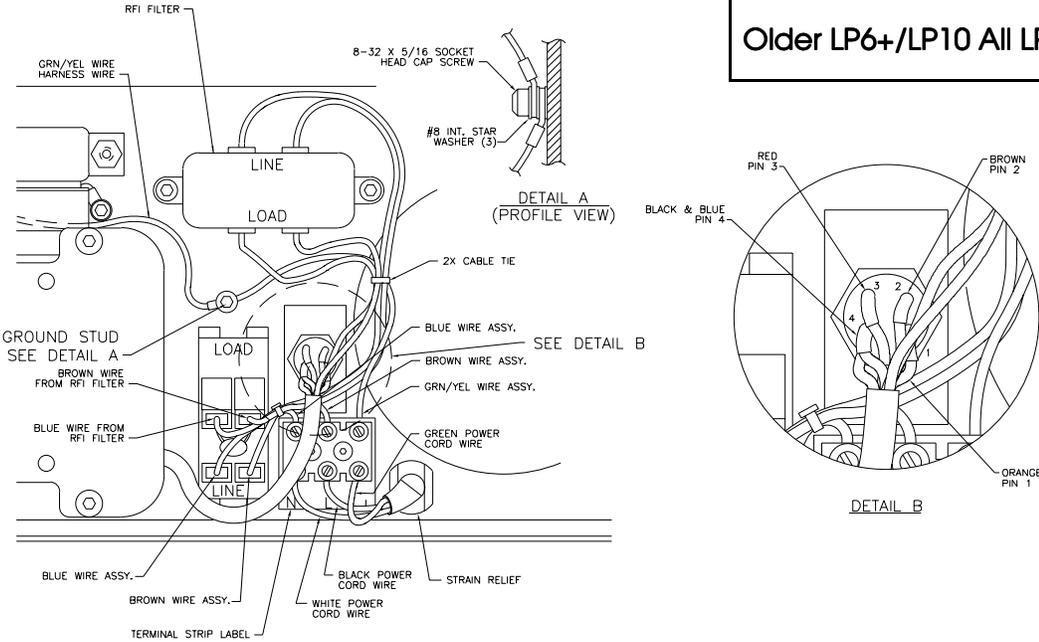

Figure 4.29.
13. Connect the green and yellow wire harness wire and any additional washers or nuts to the ground stud as shown in Figure 4.29. Secure the ground stud.